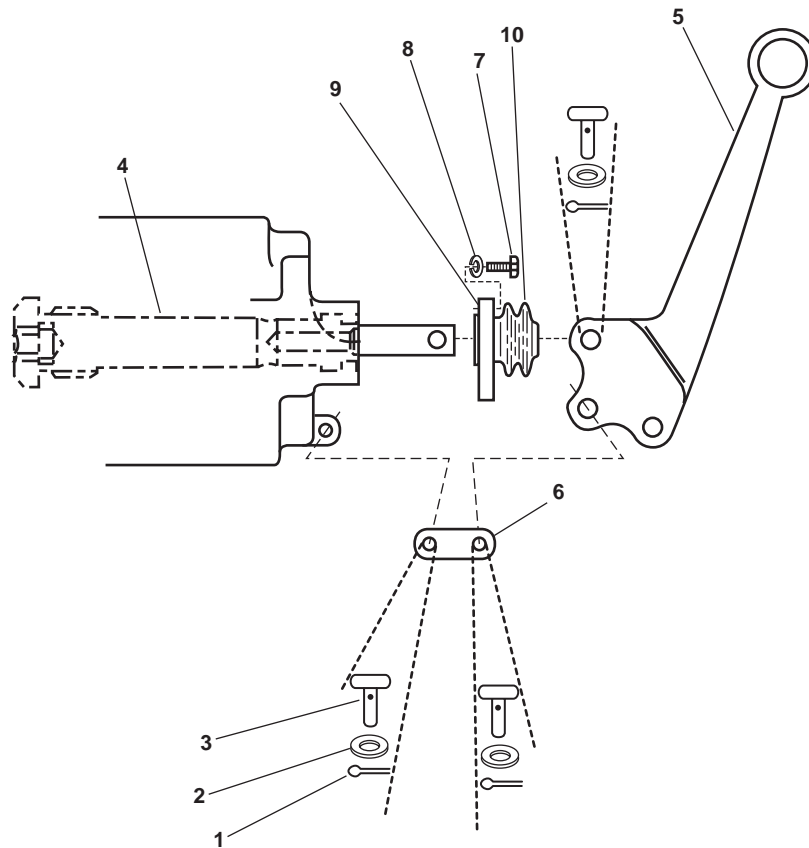

Figure 1. Capstan Control Valve Assembly
1. Remove three cotter pins (figure 1, item 1), three washers (figure 1, item 2) and three clevis pins (figure 1, item 3) from the hydraulic control valve assembly (figure 1, item 4). Discard the cotter pins.
2. Remove the handle (figure 1, item 5) and link (figure 1, item 6) from the hydraulic control assembly (figure 1, item 4).
3. Remove the two bolts (figure 1, item 7) and two lockwashers (figure 1, item 8) from the end cap (figure 1, item 9) of the hydraulic control assembly (figure 1, item 4). Discard the lockwashers.
4. Remove the end cap (figure 1, item 9) and the boot (figure 1, item 10) from the hydraulic control assembly (figure 1, item 4).
5. Remove the boot (figure 1, item 10) from the end cap (figure 1, item 9).
1. Install a new boot (figure 1, item 10) on the end cap (figure 1, item 9).
2. Install the end cap (figure 1, item 9) and boot (figure 1, item 10) on the hydraulic control assembly (figure 1, item 4) using two bolts (figure 1, item 7) and two new lockwashers (figure 1, item 8).
3. Install the handle (figure 1, item 5) on the hydraulic control assembly (figure 1, item 4) using three clevis pins (figure 1, item 3), three washers (figure 1, item 2) and three new cotter pins (figure 1, item 1).